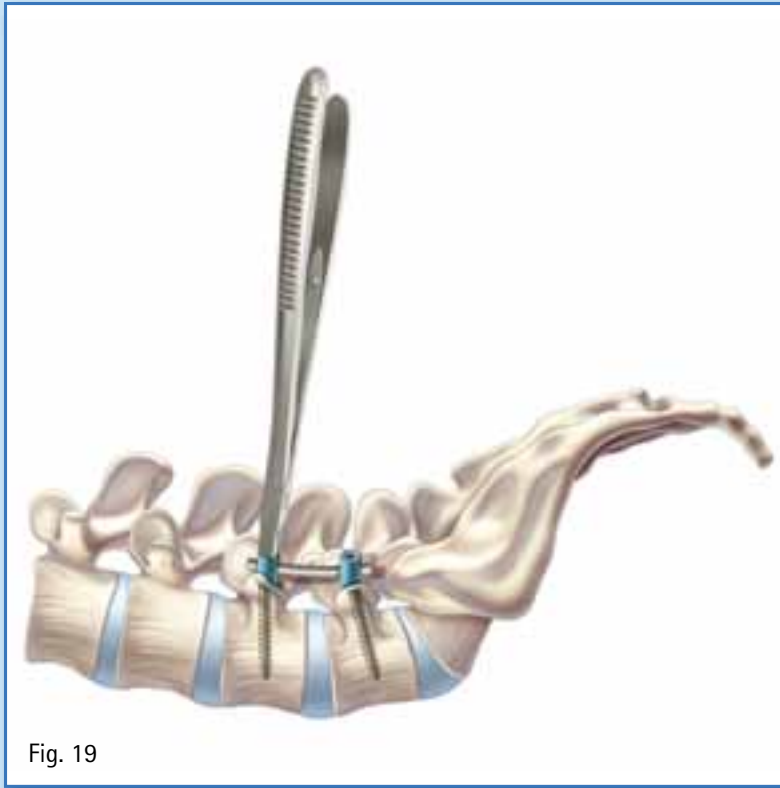

Fig. 19
- Break off the extended tabs with the tab breaker (FW179R). (Fig. 19)